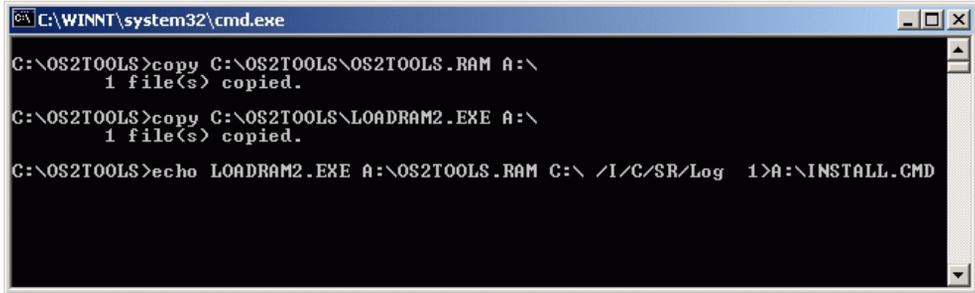

Figure 56 `C:\WINNT\system32\cmd.exe` Window
- Click **OK**. The `C:\WINNT\system32\cmd.exe` window displays (Figure 56) and prints a series of messages as an `INSTALL.COMD` file is written to the 3.5-inch diskette. Upon program completion, the window closes.